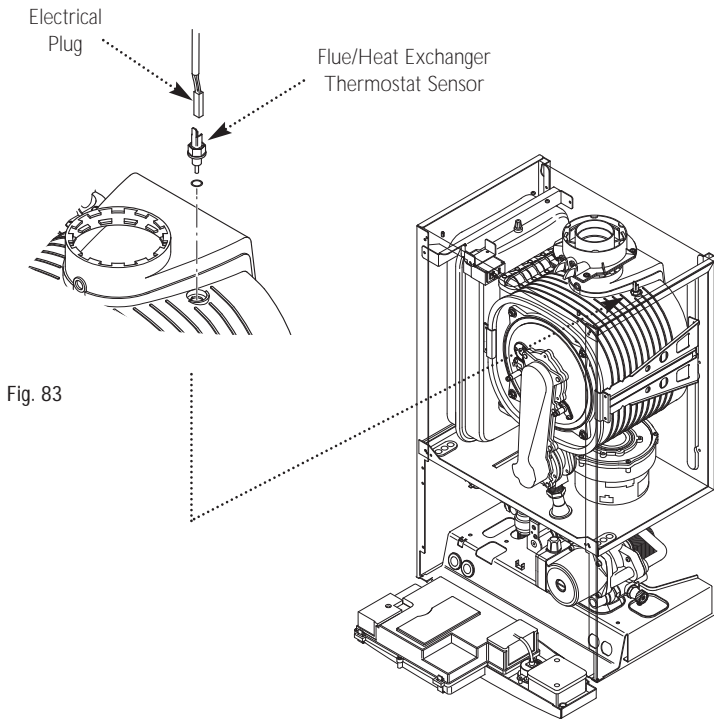

Fig. 83
14.8 Flue/Heat Exchanger Thermostat Sensor (Fig. 83)